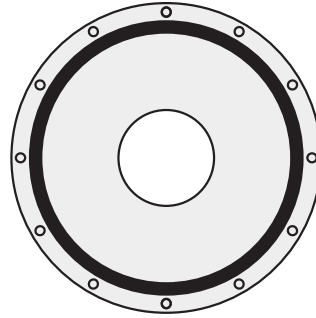

FIG. 3
Apply to the top flange of the Cone (B). Make sure you apply it inside the bolt holes [FIG. 3].